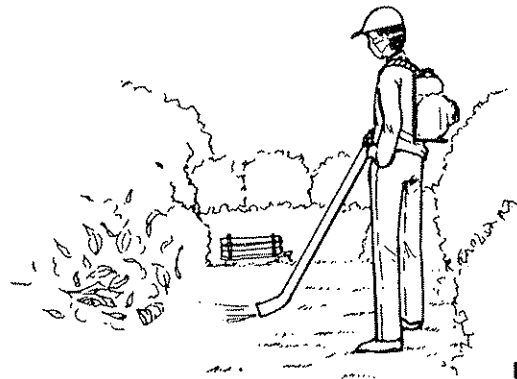

Figure 7
4. Select the best speed for each application of the blower. Example: low speed for blowing dry leaves from lawn and high speed for moving gravel or dirt from driveway. (Fig. 7 & 8)